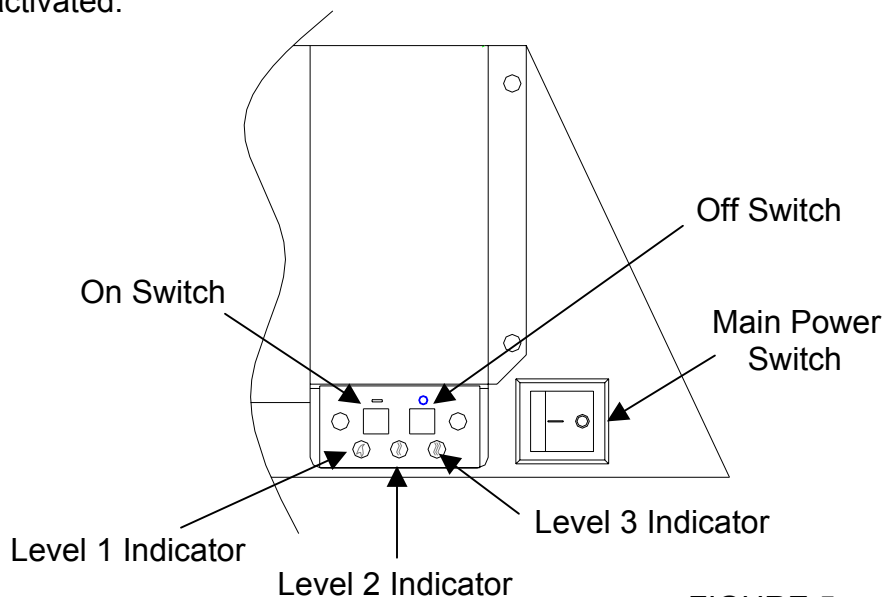

FIGURE 5
3. Locate manual controls refer to FIGURE 5.